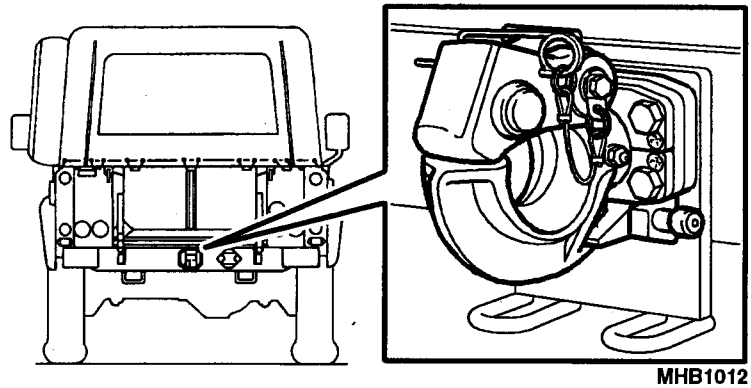

Fig 13 Rotating towing hook location
- 40 The towing hook is located on the rear cross member (Fig 13). To use the towing hook proceed as follows: